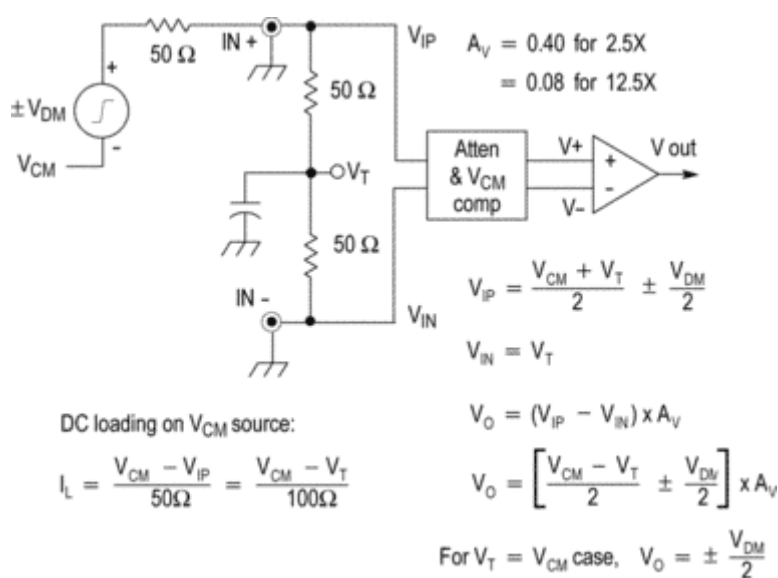

Figure 11: Open (-) input
**Open (-) input.** Another alternative single-ended measurement topology is shown. (See Figure 11.) In this case, the (-) input is left open, effectively keeping it at the  $V_T$  voltage level. The general equations describing the response and loading of this topology are also shown.
When making single-ended measurements of an HDMI signal, the best measurement topology will generally be the open (-) input topology. (See Figure 11 on page 14.) With an open (-) input on the probe, the DC termination voltage will largely be nulled out by the probe CMRR. This maximizes the dynamic range available for measuring the HDMI digital signal. Depending on the HDMI signal amplitude and whether the measurement is made on a full size transmitted signal or attenuated by cable loss, the P7313SMA probe attenuation setting may need to be set to 12.5X, rather than the less noisy 2.5X setting.